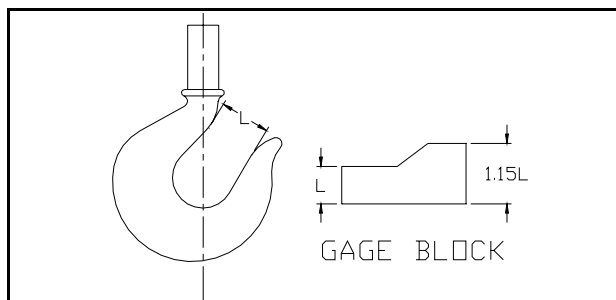

FIGURE 5-2 Gage Block.
- Check throat opening of the hook. (Refer to Figure 5-2.) It is recommended that upon receipt of the hoist, a measurement be made and recorded of the hook throat opening. OSHA regulations require that the hook be replaced if the throat opening exceeds 15 percent of the original opening, or if the hook is twisted more than 10 degrees from the unbent plane. We suggest that a gage block properly identified to the hoist, similar to the one shown in Figure 5-2, be made for each hook for use in these measurements.